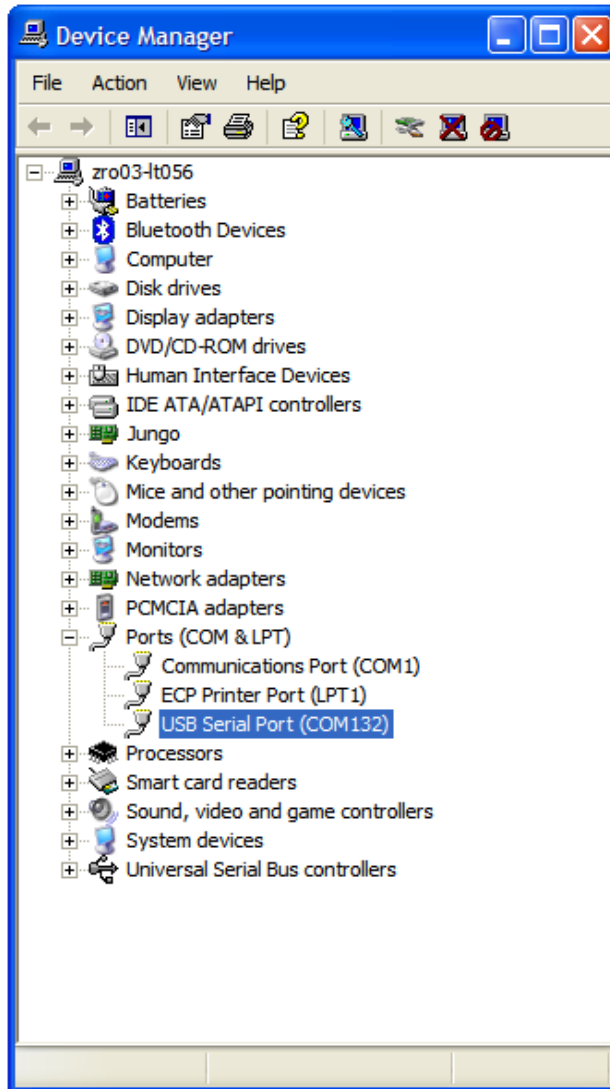

Figure 7. Device Manager Window COM Port
1. Determine the COM port associated with the target board - this may be the USB virtual COM connection between the PC and the development board or a true serial COM port. The Windows “Device Manager” allows users to see the connection. Figure 7 shows the “Ports (COM&LPT)” group and the “USB Serial Port (COMxxx)” name.